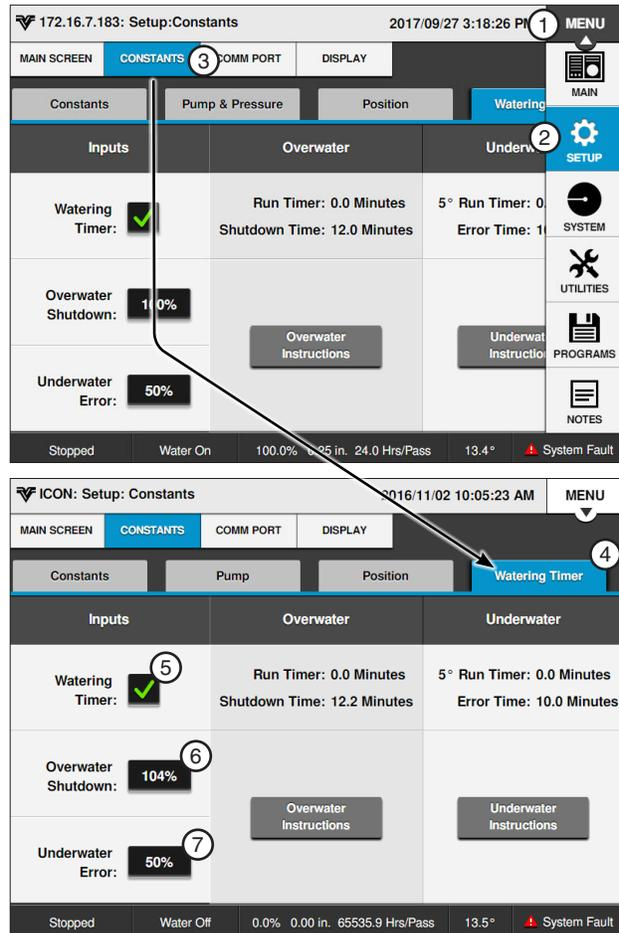

Figure 32-1 1. Menu 2. Setup 3. Constants 4. Watering Timer 5. Watering Timer Checkbox 6. Overwater 7. Underwater
1. Push **Menu**, **Setup**, **Constants** and **Watering Timer** to display the Watering Timer screen. Refer to Figure 32-1.
To view the status of the watering timers, push **Menu**, **Setup**, **Constants** and **Watering Timer** to display the Watering Timer screen. Refer to Figure 32-1.